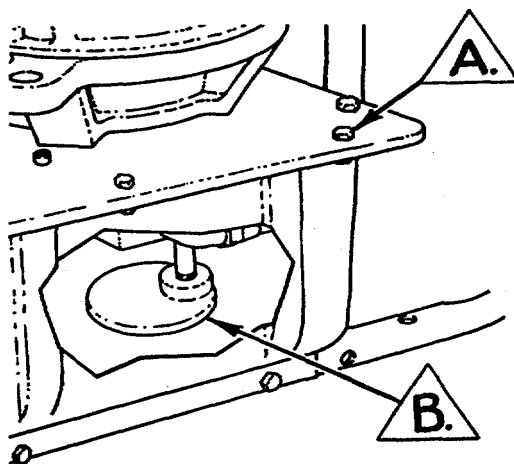

Figure 3-1.
- 3.1.6. To change the fluid (Figure 3-1)